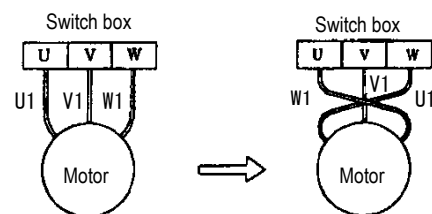

Fig. 6
- 2) Then, confirm the rotational direction. After starting the pump, if the discharge rate is small and if an abnormal sound is generated, the rotational direction is reverse. In that case, replace two-phases from each other among three of them, (refer to Fig. 6).